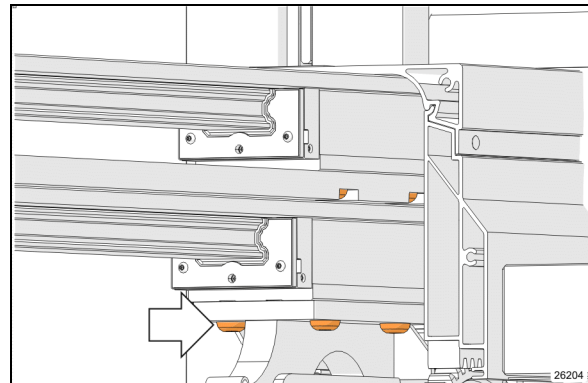

FIGURE 46: LOWER CARRIAGE MOUNTING SCREWS
4. Remove the lower carriage mounting screws. (Figure 46)
13. Re install the lower carriage mounting screws. (Figure 46).